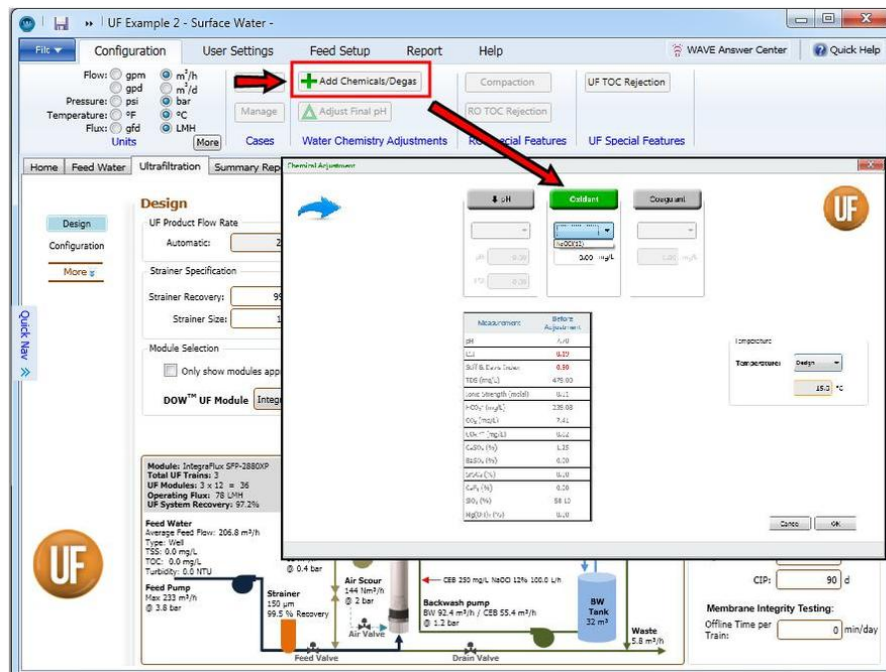

Figure 47. Specification of Oxidant addition for UF in WAVE
2. Click on the “pH” button to enable pH reduction. An acid addition line (named “ACID”) would automatically appear in the UF System Diagram and an additional column (named “After pH”) would appear in the table inside the Chemical Adjustment Popup Window. Figure 47. Feed pH specification for UF